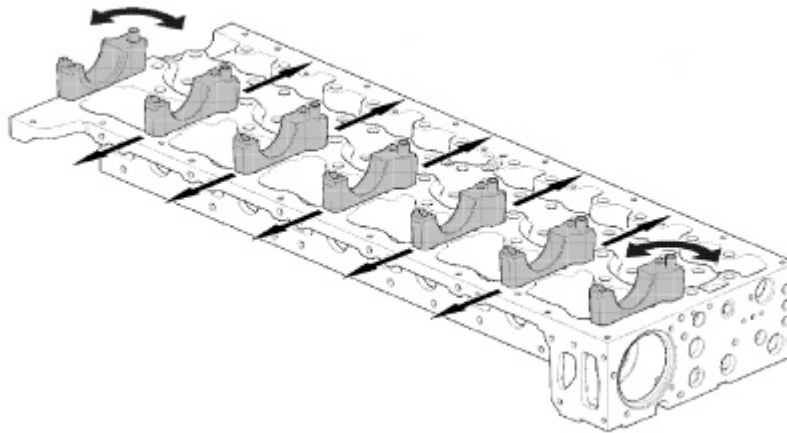

Figure 3. Check for Free Movement
- Check that the lower bearing saddles can move slightly on the locating pins. The lower saddles position adjusts to allow for proper alignment during camshaft installation. Lower saddles 1 and 7 should turn slightly forward and back at one locating pin location. Lower saddles 2 through 6 should move slightly side to side as shown in Figure 3.